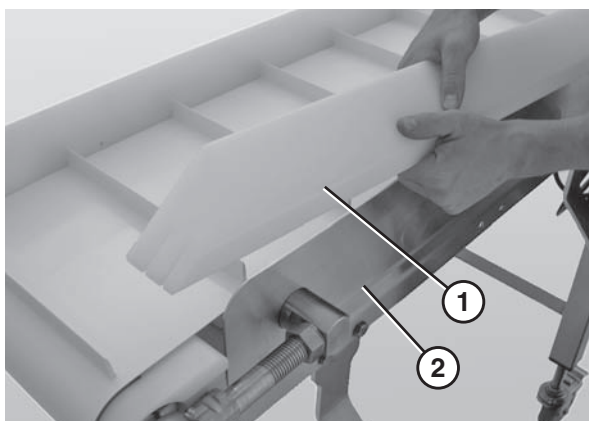

Figure 40
2. Remove the guide (**Figure 40, item 1**) from the conveyor (**Figure 40, item 2**).